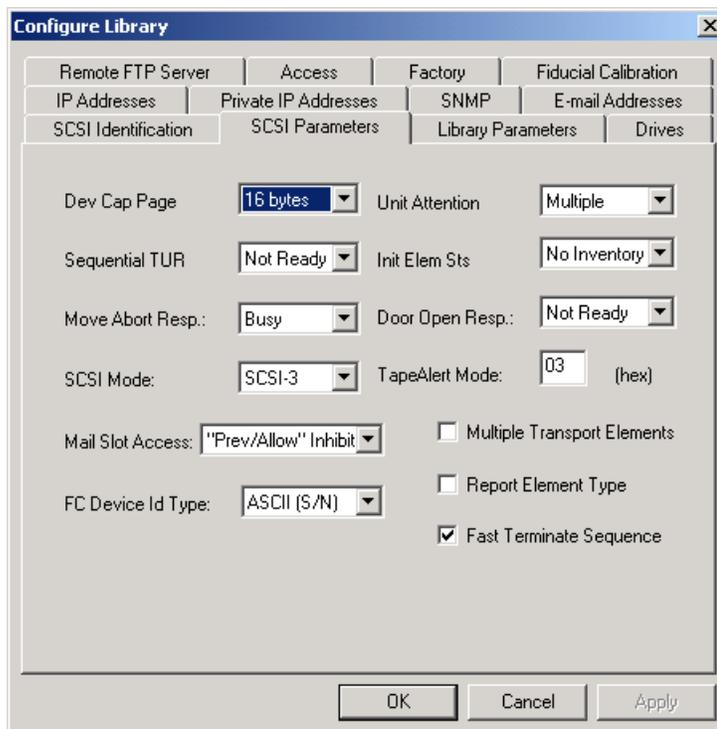

Figure 7-7: Configure Library Dialog Box—SCSI Parameters Tab
1. Click the **SCSI Parameters** tab to bring it to the front (Figure 7-7).